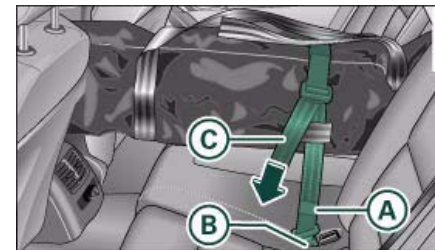

Fig. 91 Securing the
- Insert the fastening belt  ⇒ page 82, fig. 91 of the ski bag into the centre seat belt buckle .